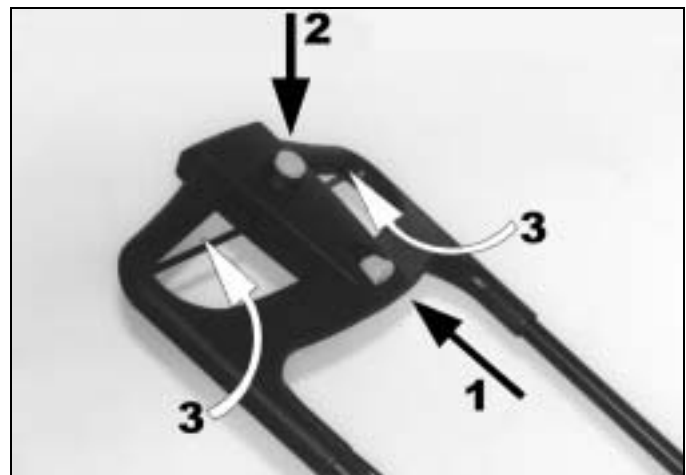

Figure 15
3. To start the mower press the front yellow button first (1), then the rear yellow button (2) and hold them down. Next, squeeze the operator presence control bar (3). Release the yellow buttons when the motor starts and continue to hold the operator presence control bar (*Figure 15*).
1. To stop the motor and the blade simply release the operator presence control bar (*page 13, Figure 15*). The motor will stop, and the blade will stop spinning within three seconds. The rear yellow button will pop out to its original position.